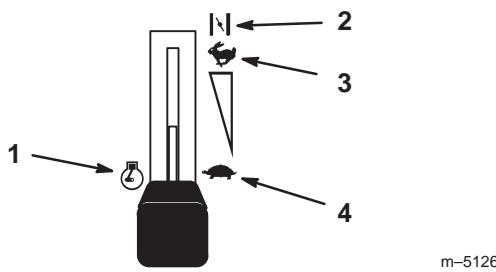

Figure 6
5. Move the throttle lever to Choke (Fig. 6) before starting a cold engine.
7. After the engine starts, move the throttle lever to between Fast and Slow (Fig. 6). Allow the engine to warm to 3 to 5 minutes before moving the throttle lever to Fast.
1. Move the throttle lever to Slow (Fig. 6).